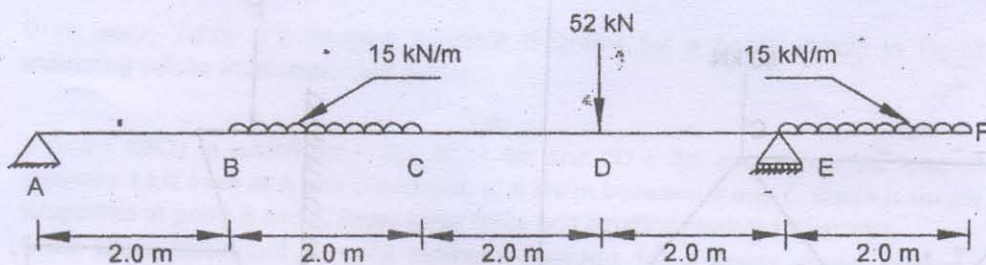

Fig. 12
- Que. 6.c Draw shear force and bending moment diagrams for a beam shown in Fig.12 indicating values at all important points. 07